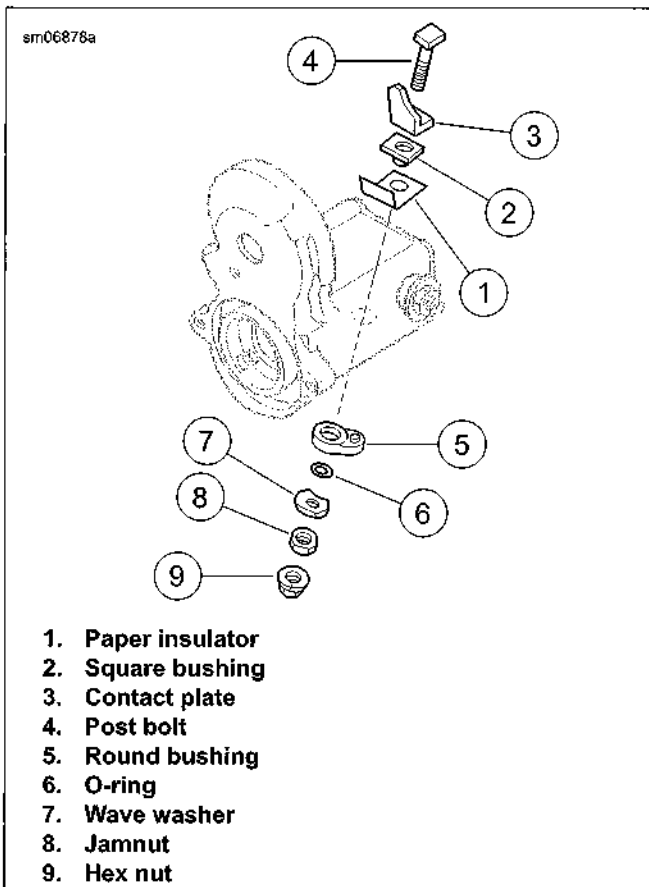

Figure 6-22. Long Post Contact (battery)
1. See Figure 6-22. Remove the long post contact:
- a. Remove hex nut (9).
- b. Remove jamnut (8), wave washer (7), O-ring (6) and the round bushing (5).
- c. Remove post bolt (4), contact plate (3), square bushing (2) and paper insulator (1).